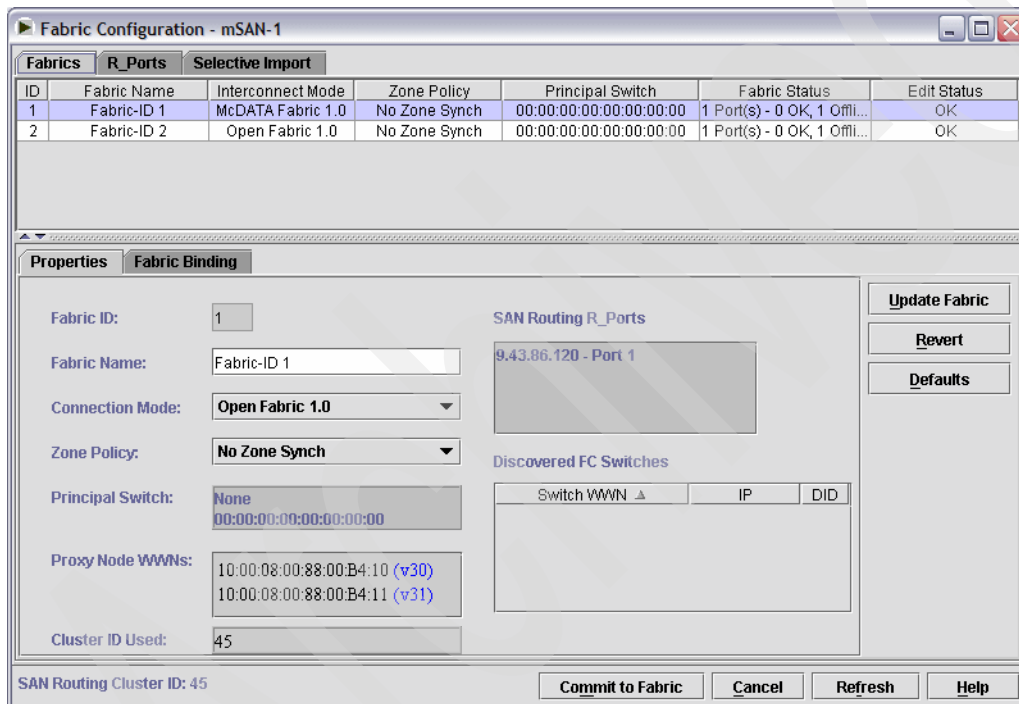

Figure 17-50 Fabric Configuration: Fabrics tab
6. On the Fabrics tab (Figure 17-50), you can set the Connection Mode and Zone Policy: